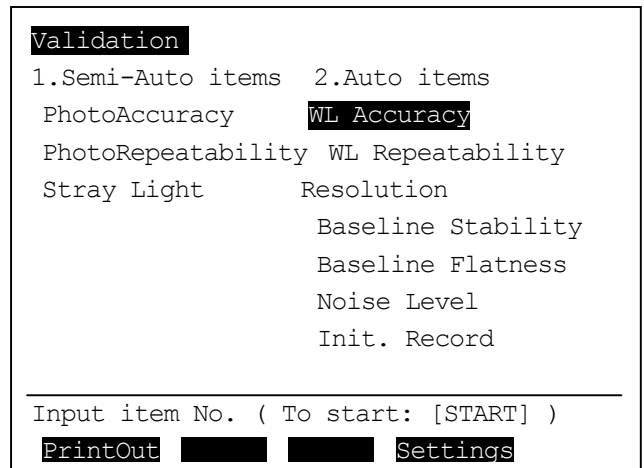

Fig.3-1 Instrument validation screen
- 2) The check item selected for implementation is highlighted. For example, wavelength accuracy (WL Accuracy) is highlighted for implementation in figure 3-1.
- 1) Press the [1] key at the instrument validation screen (see Fig. 3-1). Now select “**1. Semi-auto items**”, the password screen will appear, so input the password (just press the [ENTER] key if a password is not required). The “**Settings of Semi-Auto items**” screen will be displayed.
- 2) Select one of the items (1 to 3) to enter the parameter settings screen for that inspection item. Setting changes to “Inspection: Yes/No”, inspection parameters and pass criteria values can be made here (see inspection items for details).
- 1) Press the [2] key in the instrument validation menu (see Fig. 3-1). Now select “**2. Auto items**”, the password screen will appear, so input the password (just press the [ENTER] key if a password is not required). The Settings of Auto items screen will be displayed.